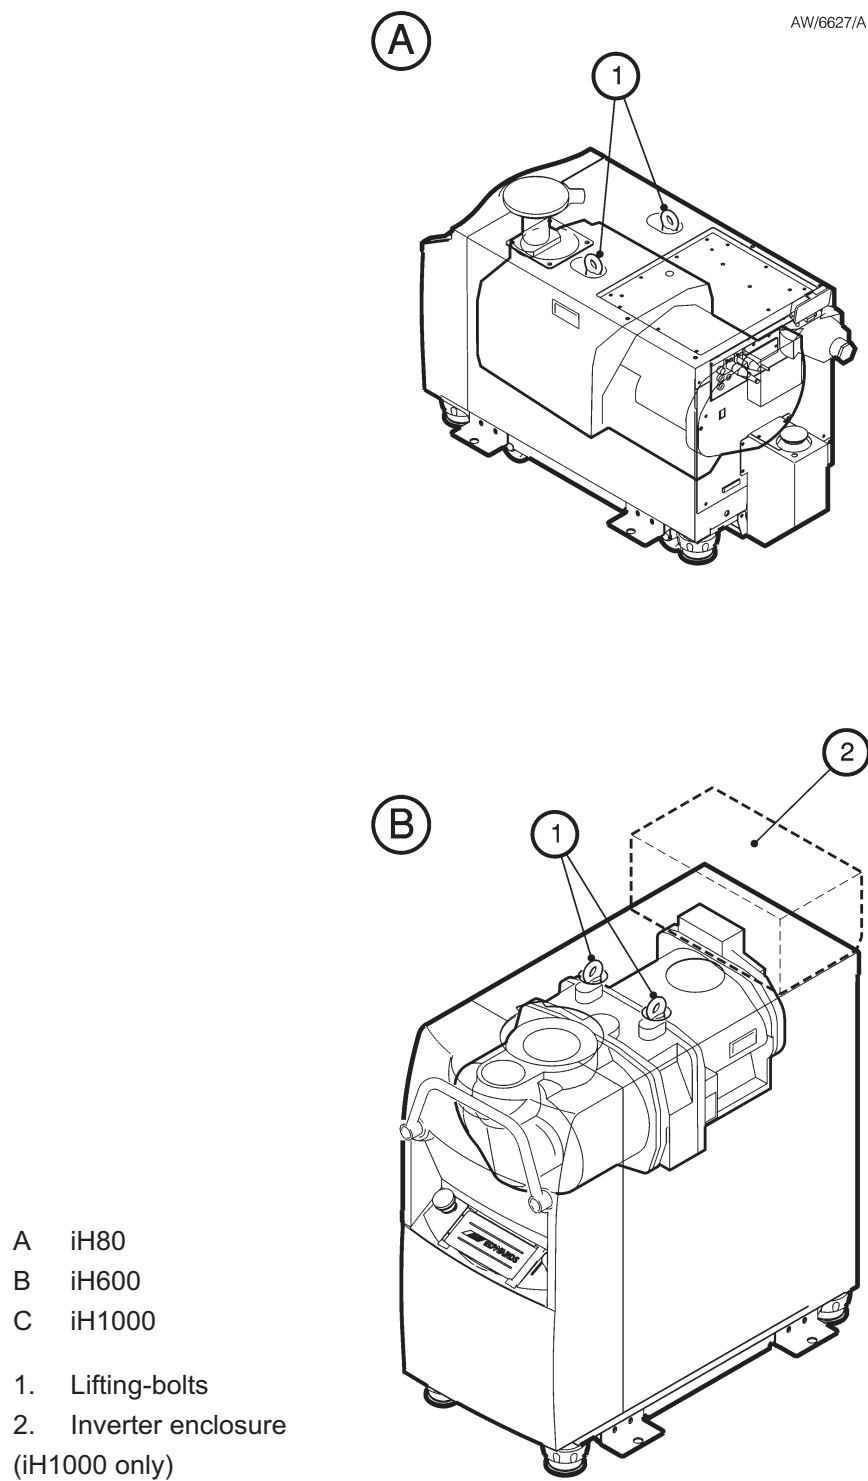

Figure 3-2 - Lifting-bolt positions
5. Refer to Figure 3-2. Use suitable lifting-equipment attached to the lifting bolts (1) to remove the iH system from its pallet. Do not try to lift the iH system by hand (see Section 2 for the mass of the iH system).